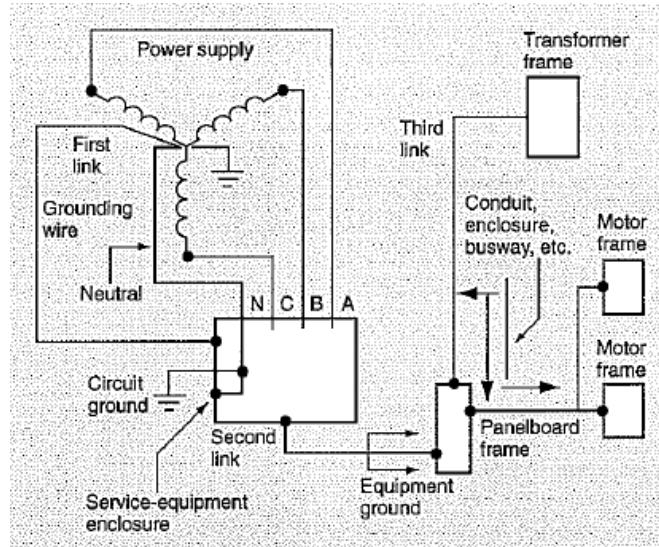

Figure 4.13: Links in a Grounding System
- 4-40 What apparatus is used in a typical plant to furnish the low-impedance path? Figure 4.13 shows a grounded, Y-connected transformer secondary. The grounding wire is the first link between the transformer and the equipment ground for the plant. The other links shown in the diagram are the equipment grounding lines.